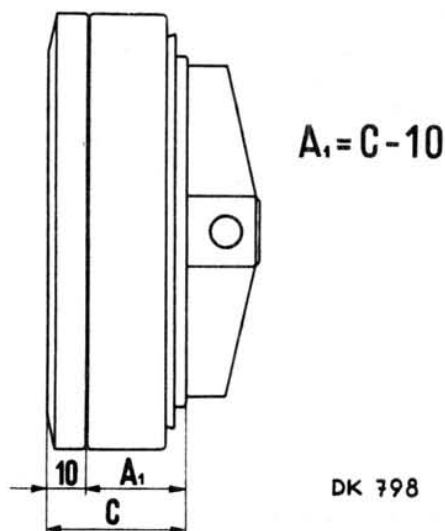

Fig. 4.3/3 - Clamping of Bearing in MP 5-105 Jig
26. Turn over the housing, remove the cover with the gasket and the MP 5-104 jig. Measure the dimension for the tapered roller bearing, the shims, and the tapered roller bearing itself in the manner described in paragraphs 22 to 24, and determine the required thickness of shims for the other side of the differential bearing (dimension "B" in Fig. 4.3/2). Add 0.05 mm and the reduction (10 mm) as specified sub paragraph 24 to the calculated dimension of the shims so as to be able to fit the bearing with a preload, and set up the shims.